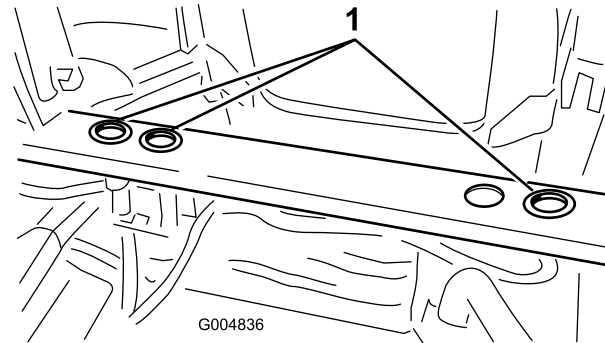

Figure 9
14. Install rubber grommets into the 3 holes in the rear frame mount as shown in (Figure 9).